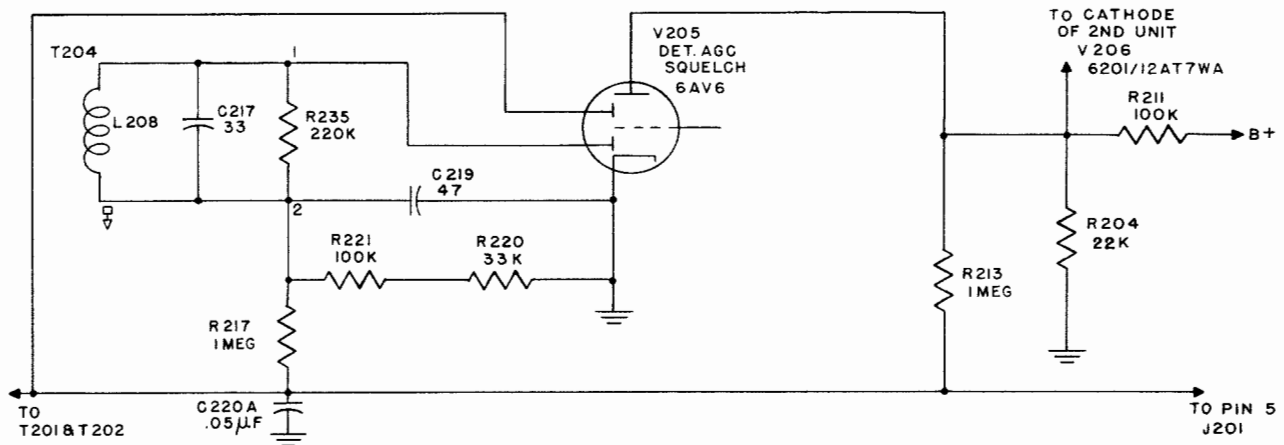

Figure 2-9. Simplified Schematic, Automatic Gain Control
(3) AUTOMATIC GAIN CONTROL (AGC).—A delayed type of automatic gain circuit is utilized, as indicated in the simplified schematic of figure 2-9; "delayed" meaning a voltage delay, not a time delay. This circuit functions in such a way that AGC action is delayed until the incoming carrier strength reaches a predetermined level and then a control voltage is applied to the stages to be regulated. In this circuit, the rectified signal voltage on the detector is applied to the AGC bus through resistor R217 which, with C220A, form a filter which removes any RF and gives the proper time constant or time delay to the AGC operation. Volt-